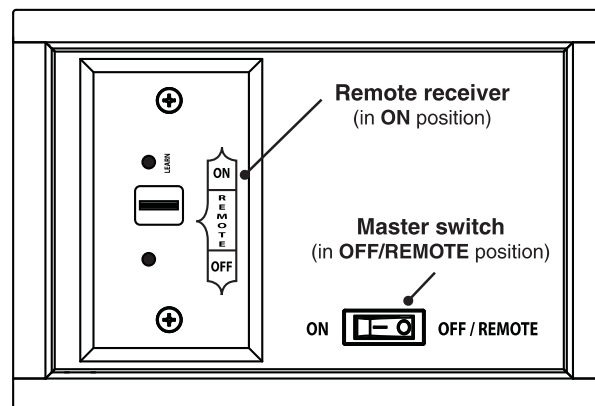

Fig. 31-1 Control panel detail
1. Ensure the master switch is in the **OFF/REMOTE** position (see Fig. 31-1).
2. Locate the 3-position switch on the remote receiver (see Fig. 31-1), and slide the switch to the **ON** position. The remote receiver will emit an audible "beep"; then the ignition sequence will begin. After the pilot lights and is established, the valve will automatically open and the burner will light.
The master switch should remain in the **OFF/REMOTE** position to allow for remote system operation (see Fig. 31-1).